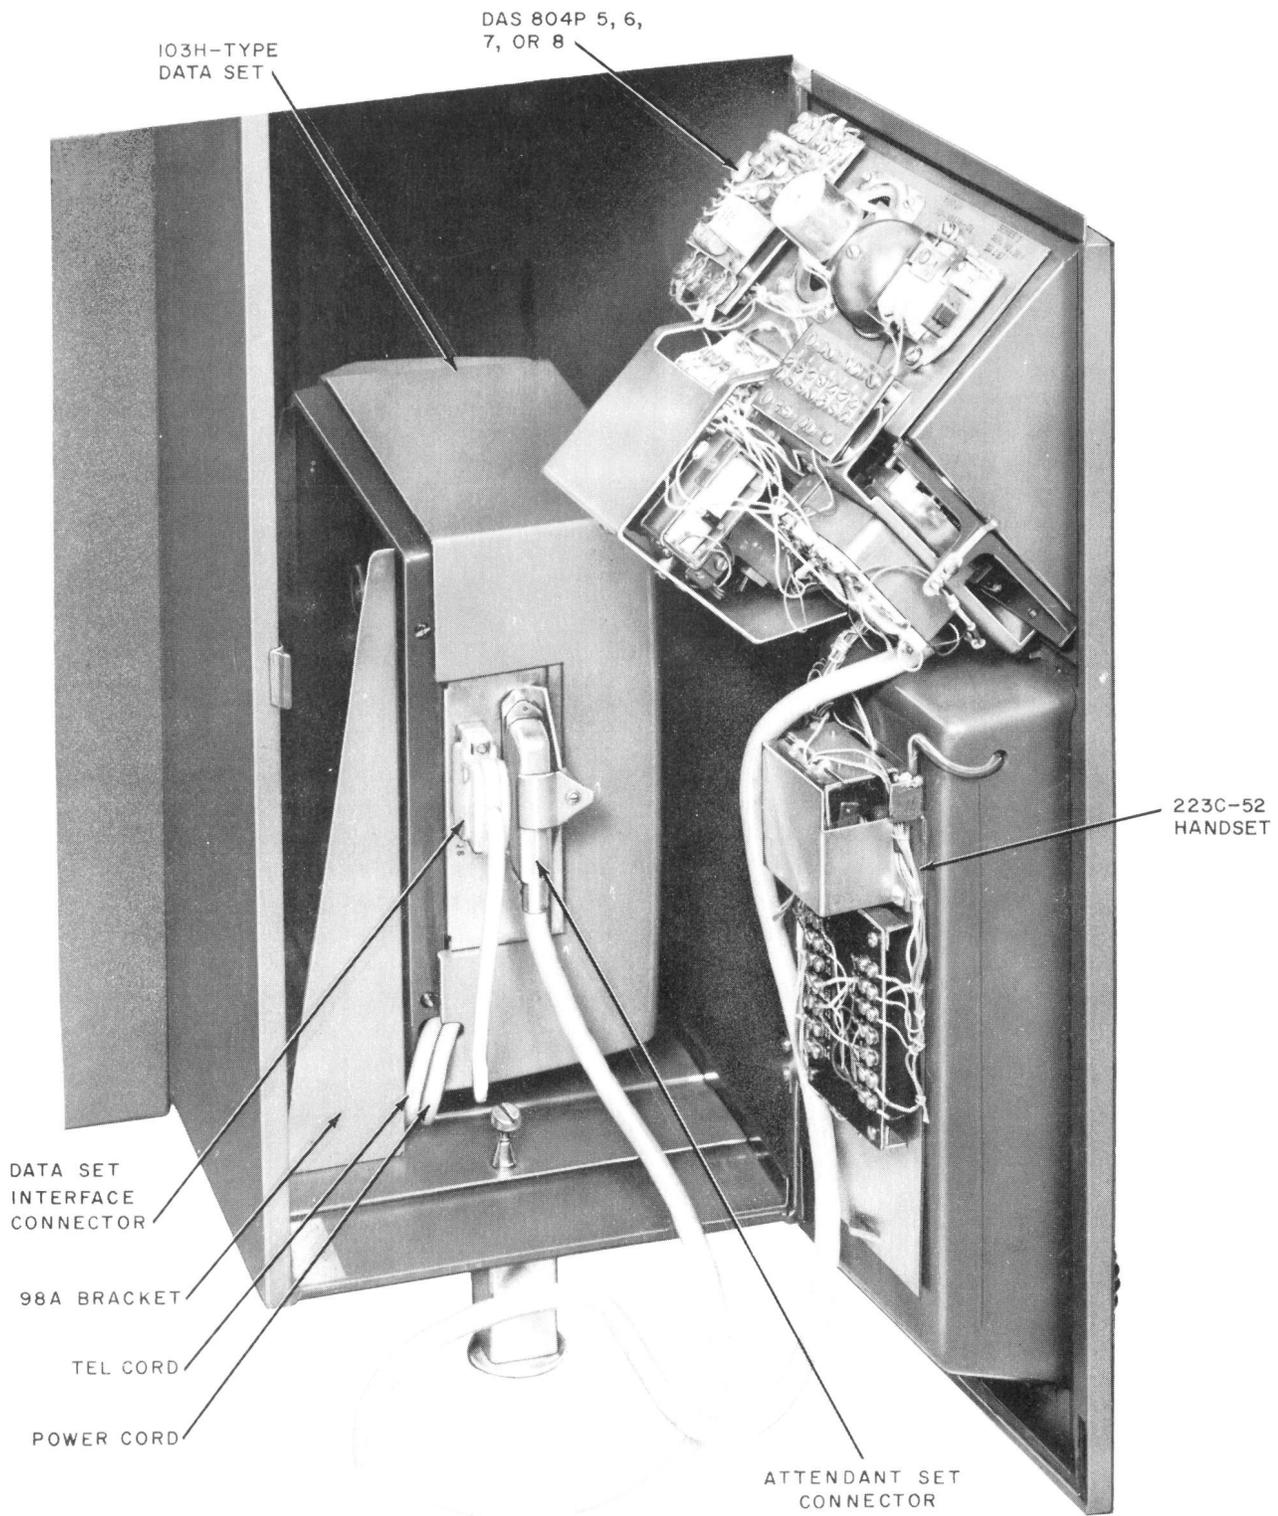

Fig. 2—Data Set 103H-Type Mounted in 37 TTY Pedestal
2.02 Data Set 103H-type is approximately 11 inches wide, 10-1/4 inches deep, 5-1/2 inches high, and weighs approximately 13.5 pounds. When used with the 37-type TTY, Data Set 103H-type is mounted inside of the TTY pedestal on a 98A bracket (Fig. 2). When used with a CPT, the data set, attendant set, and hand telephone set